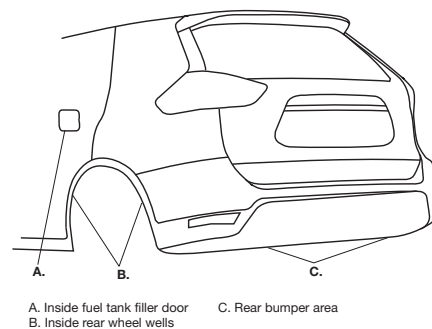

Fig. 16
5. Select a location for the Schrader valve (K), ensuring that the valve will be protected and accessible with an air line (Fig. 16). Drill a 5/16" (8mm) hole, if necessary. Determine and cut adequate length of air line to reach from the tee to the Schrader valve or from the air springs to the valve if using a dual-path installation.